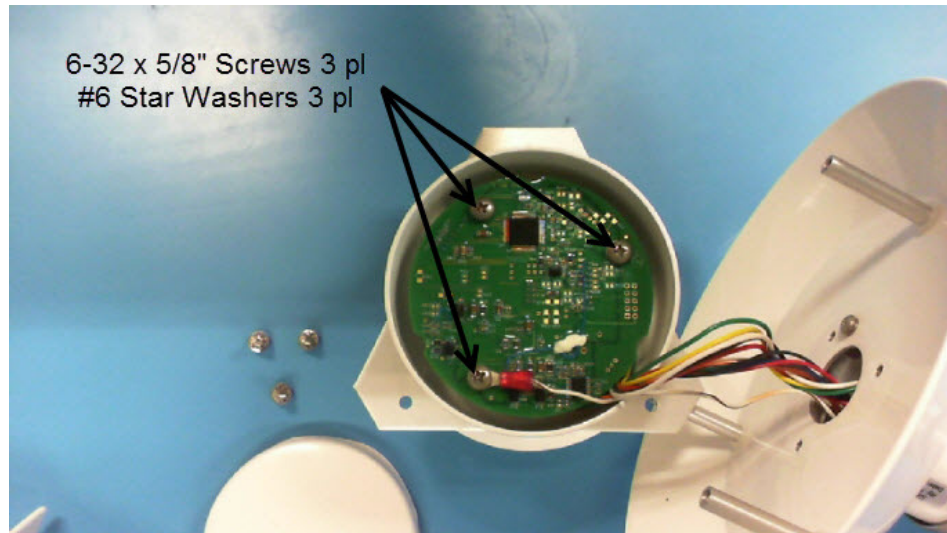

Figure 4
3. Locate and remove with a #2 Phillips Screwdriver the 3 ea. 6-32 x 5/8" Screws MOI PN 601580 and #6 Star Washers MOI PN 602260 from the Circuit Board MOI PN 10460-3. See Figure 4.
4. Referring to figure 4, reinstall the 3 ea. 6-32 x 5/8" Screws and #6 Star Washers that were removed in step 3 of the Disassembly Instructions. Fasten the Ring Lug as shown being careful to position it and hold it in place while tightening the screw so that it does not touch any traces or components on the PCB.